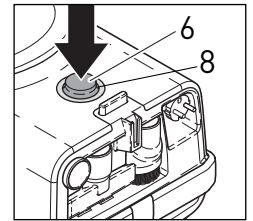
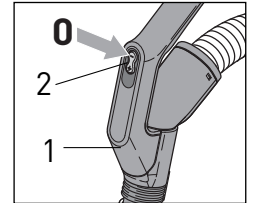

Figure 1
Figure 2
Starting the machine with a non-power-head attached - Figures 1, 2 & 3
Additional instructions for starting the machine with a power head attached - Figures 1, 2, 3, 4, 5 & 6
When the canister On/Off button (#6, figure 1) is in the ON position, you may turn the power head off and on using the power control button (#2, figure 2) on the handle. To turn the power head off using the power control button on the handle, push the minus (-) button until the suction stops. The green light (44) on the power head will then shut off. The blue light (8) on the canister will remain illuminated until the vacuum is powered off using the On/Off button on the canister (6).